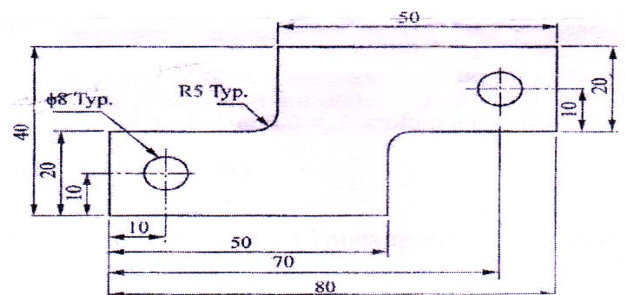

Figure 3
- b)** Write a CNC program in G and M codes for drilling the two holes in part as shown in the Figure 3 also write remark for each block. [8]